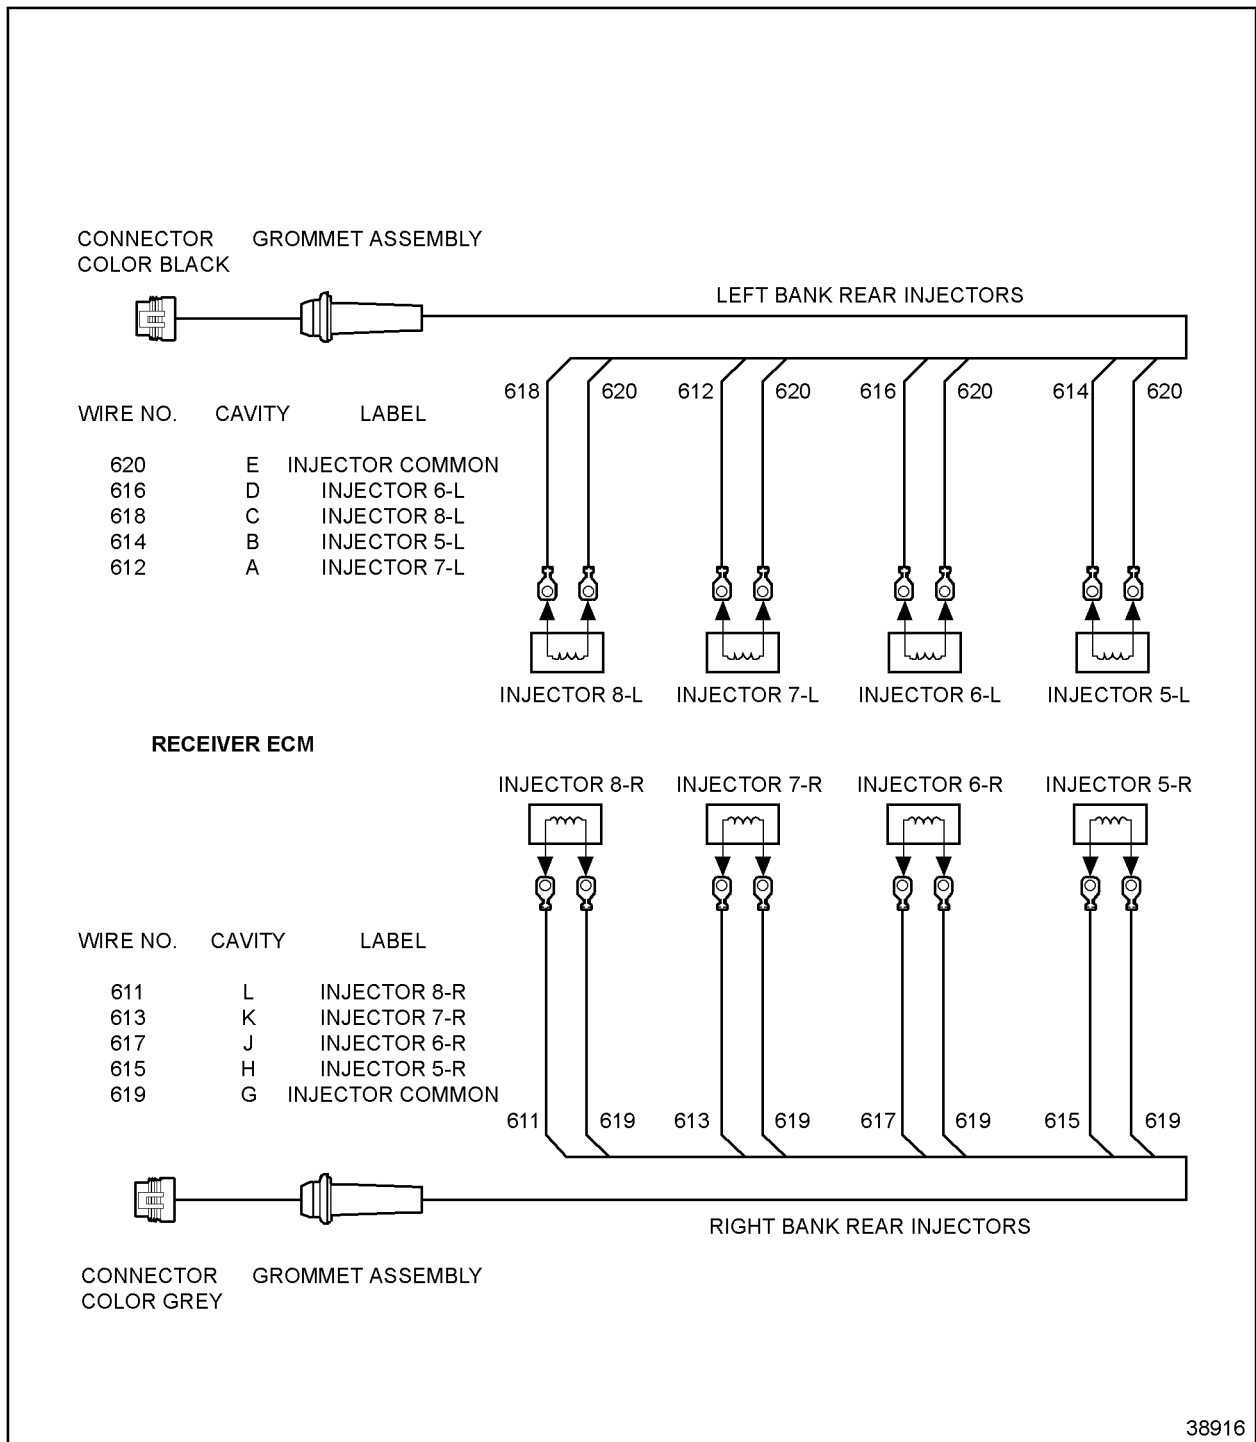
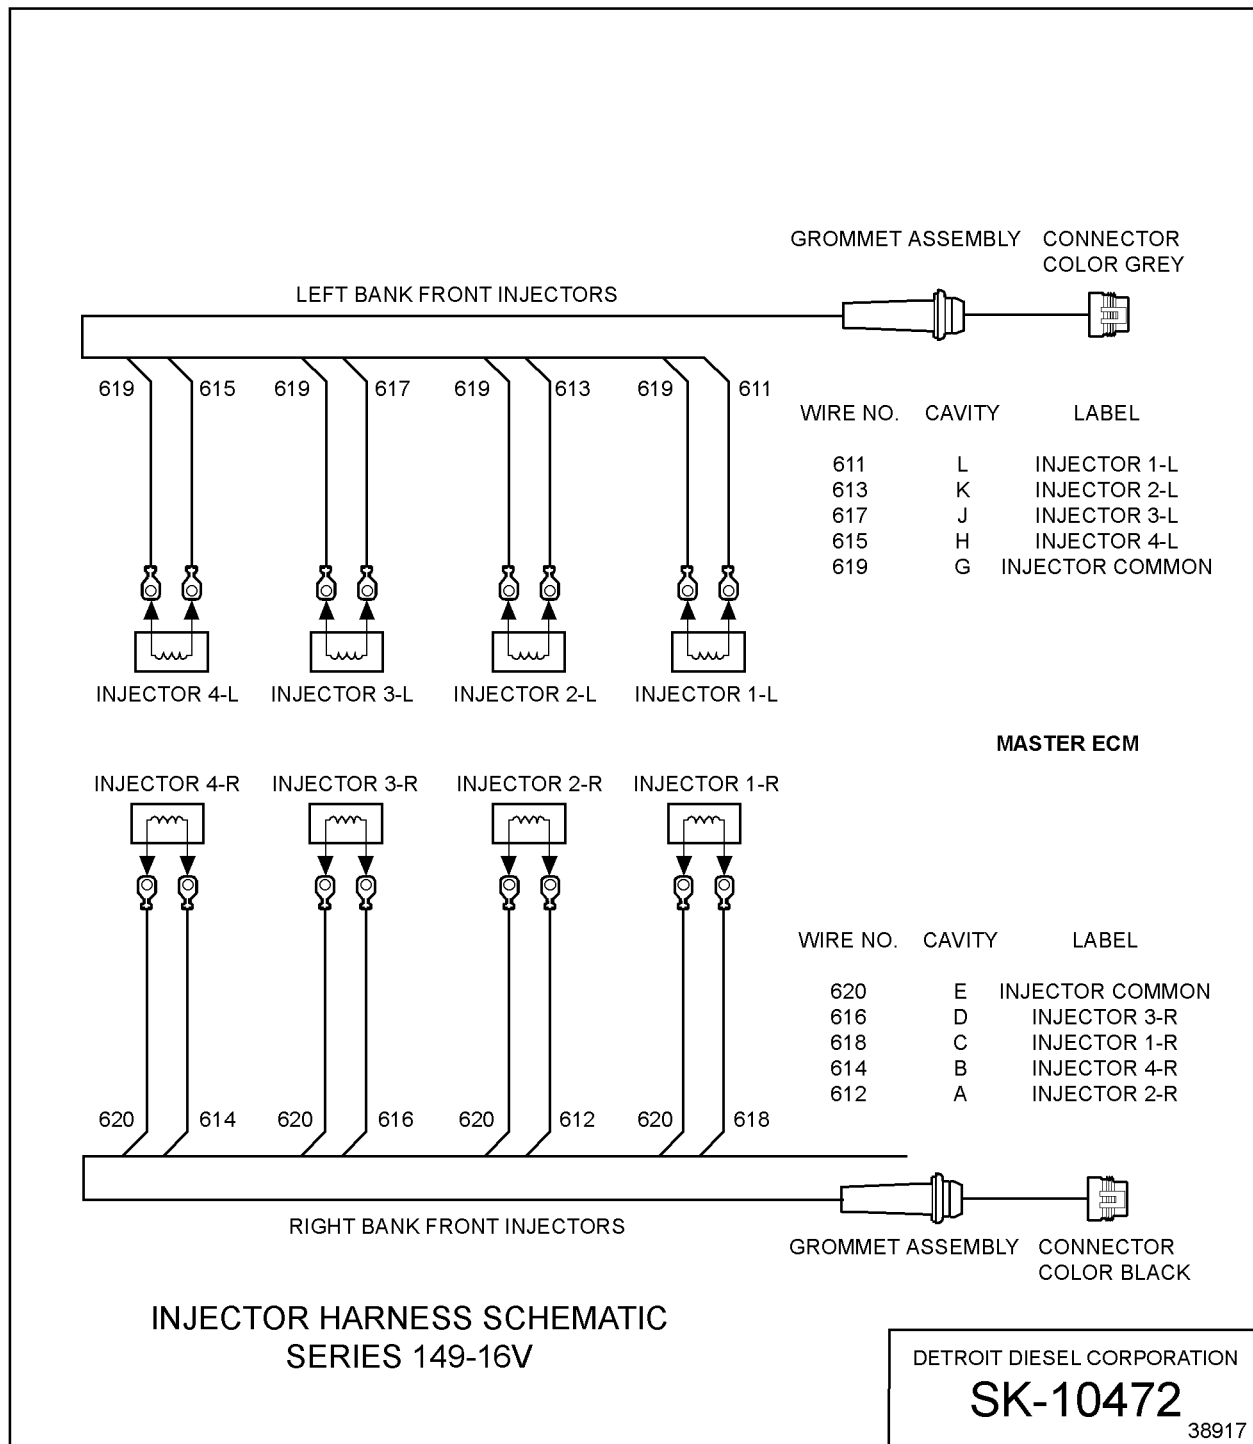
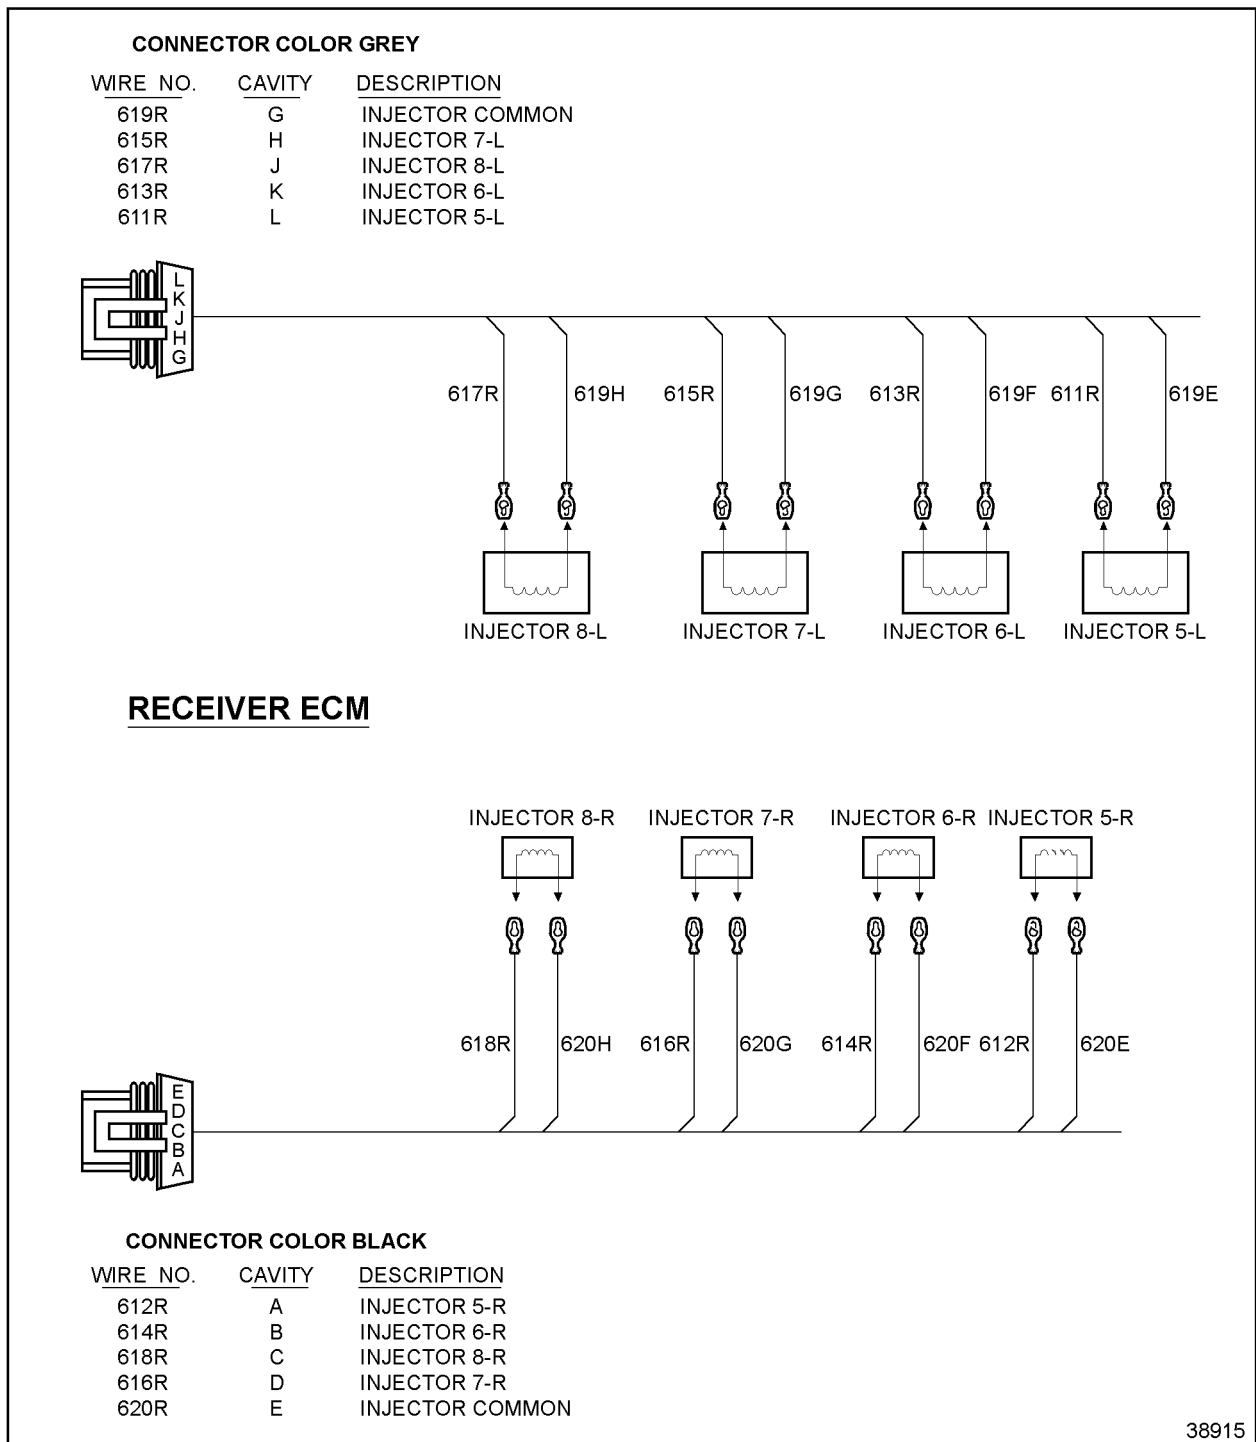
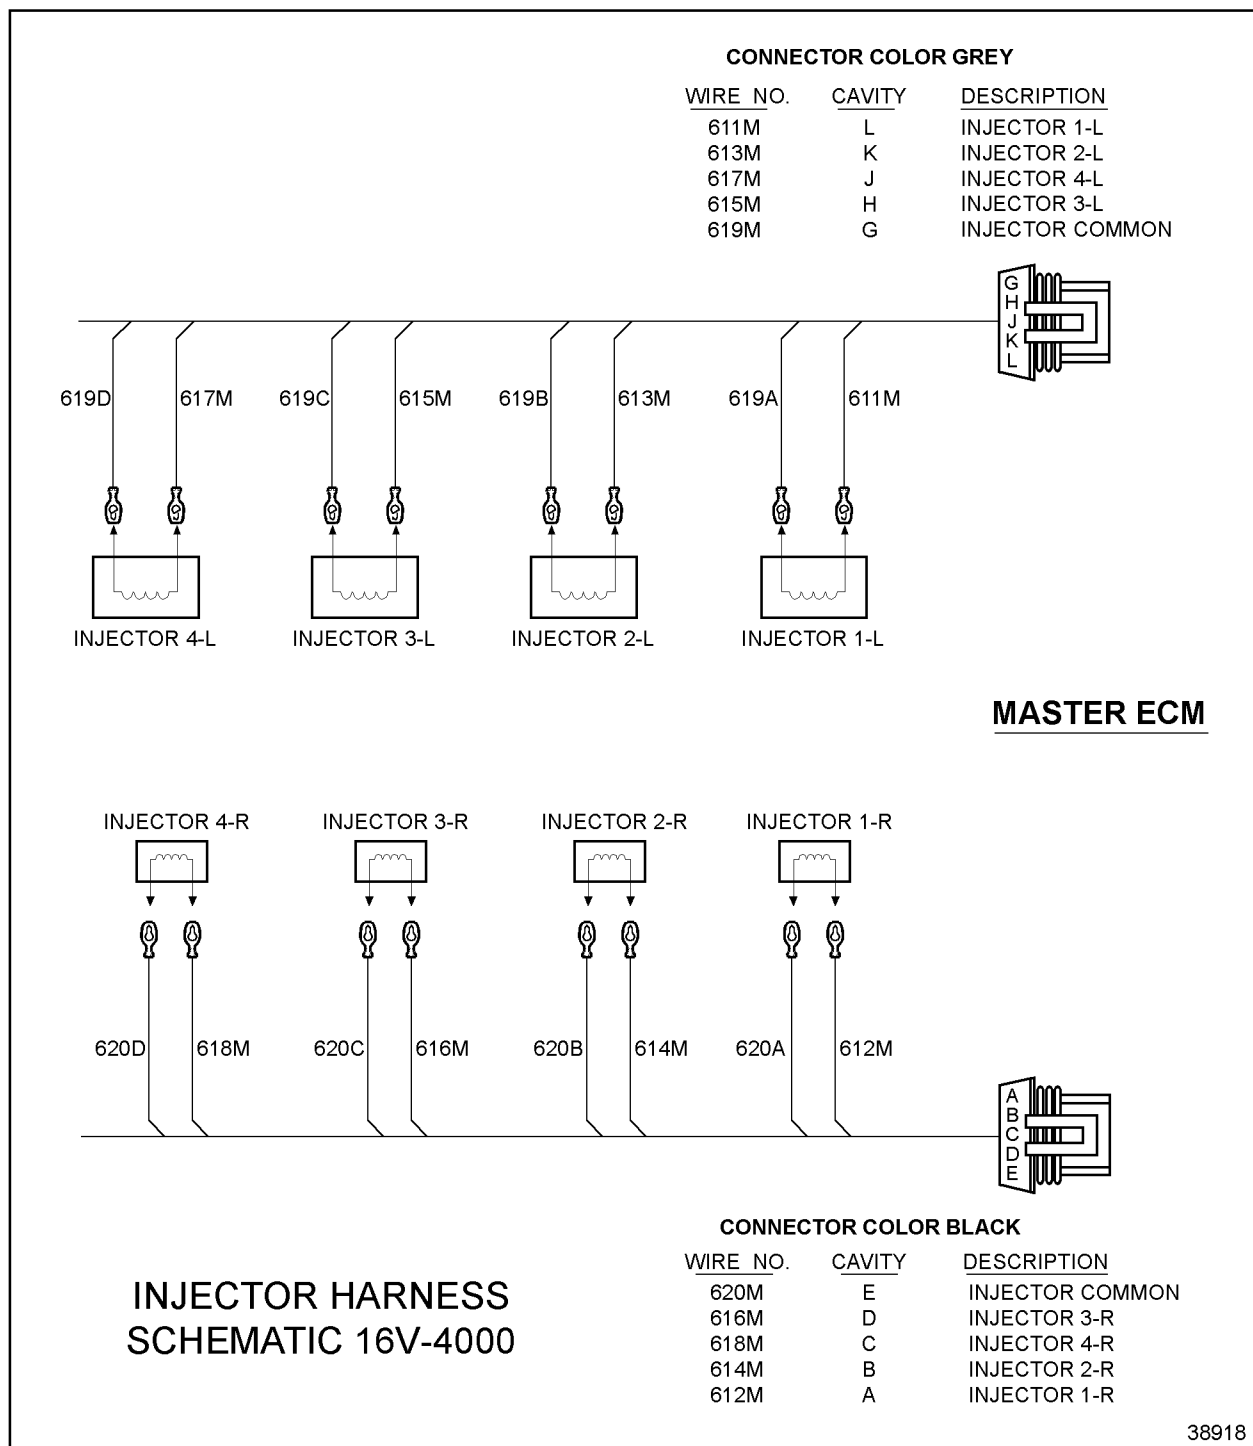

Figure 61-3 Injector Harness Schematic, Series 149 — 16V
Figure 61-4 **Injector Harness Schematic, Series 149 — 16V**
Figure 61-5 Injector Harness Schematic, Series 4000 — 16V
Figure 61-6 **Injector Harness Schematic, Series 4000 — 16V**
1. Locate the injector harness connector terminals associated with the codes. See Figure 61-3, for the Series 149 — 16V engine and see Figure 61-4, for the Series 149 — 16V engine. See Figure 61-5, for the Series 4000 — 16V engine and, see Figure 61-6, for the Series 4000 — 16V engine.